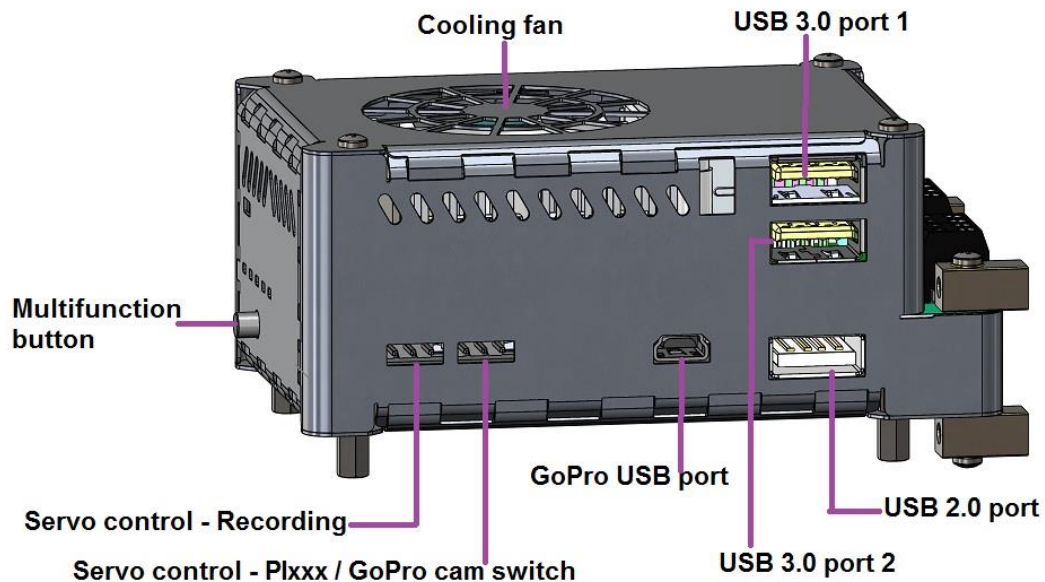

Figure 7: Controls and connections Recording box (1)
Connect the PI to an USB 3.0 port (blue), the GoPro Hero 3+ to the GoPro USB port (see Figure 7: Controls and connections Recording box (1)), and the U-Blox USB GPS to an USB 2.0 port (optionally).
Connect the PIxxx to an USB 3.0 port (blue), the GoPro Hero 3+ to the GoPro USB port (see Figure 7: Controls and connections Recording box (1)), and the U-Blox USB GPS to an USB 2.0 port (optionally).